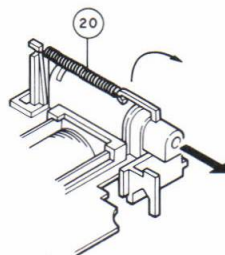

Fig. 10
2. Remove Spring B (20), and gently remove the Lifter Arm (18). (Figure 10)